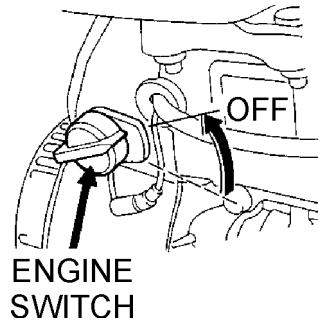

Figure 28. Engine ON/OFF Switch (OFF Position)
2. After the engine **cools**, turn the engine ON/OFF switch to the "**OFF**" position (Figure 28).